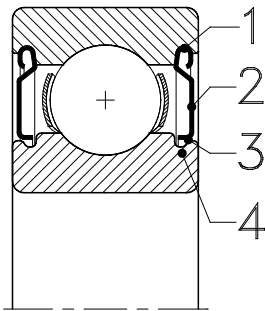

Fig. 4.1
Shields represent the simplest form of sealing. In the locating grooves, form turned (1) into the outer ring, profiled **shims of steel sheet** (2) are press fitted (see fig. 4.1).